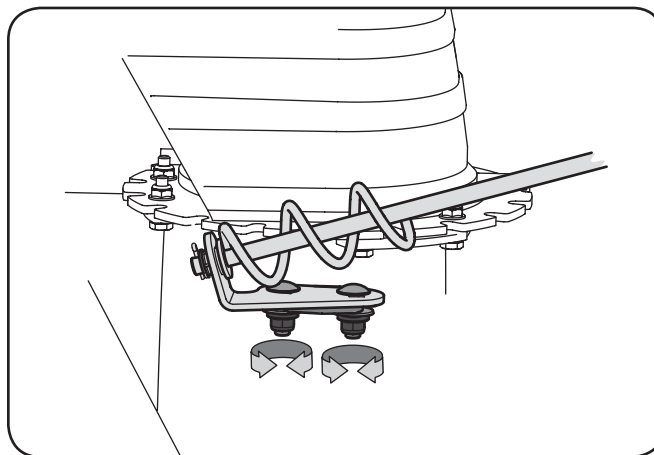

Figure 5-3
1. Loosen the two nuts which secure the chute bracket and reposition it slightly. See Figure 5-3.